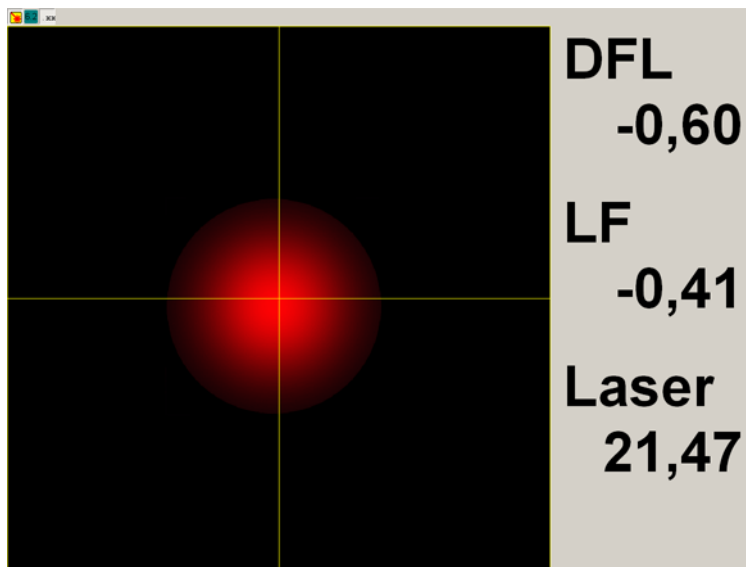

Fig. 10-36. Laser spot adjusted at the center of the photodiode
- Adjust the laser spot at the center of the photodiode (Fig. 10-36) by moving the photodiode with the screws 4 and 5. For higher precision, find a position where the signals **DFL** and **LF** are close to zero, with the total signal **Laser** being sufficiently high.